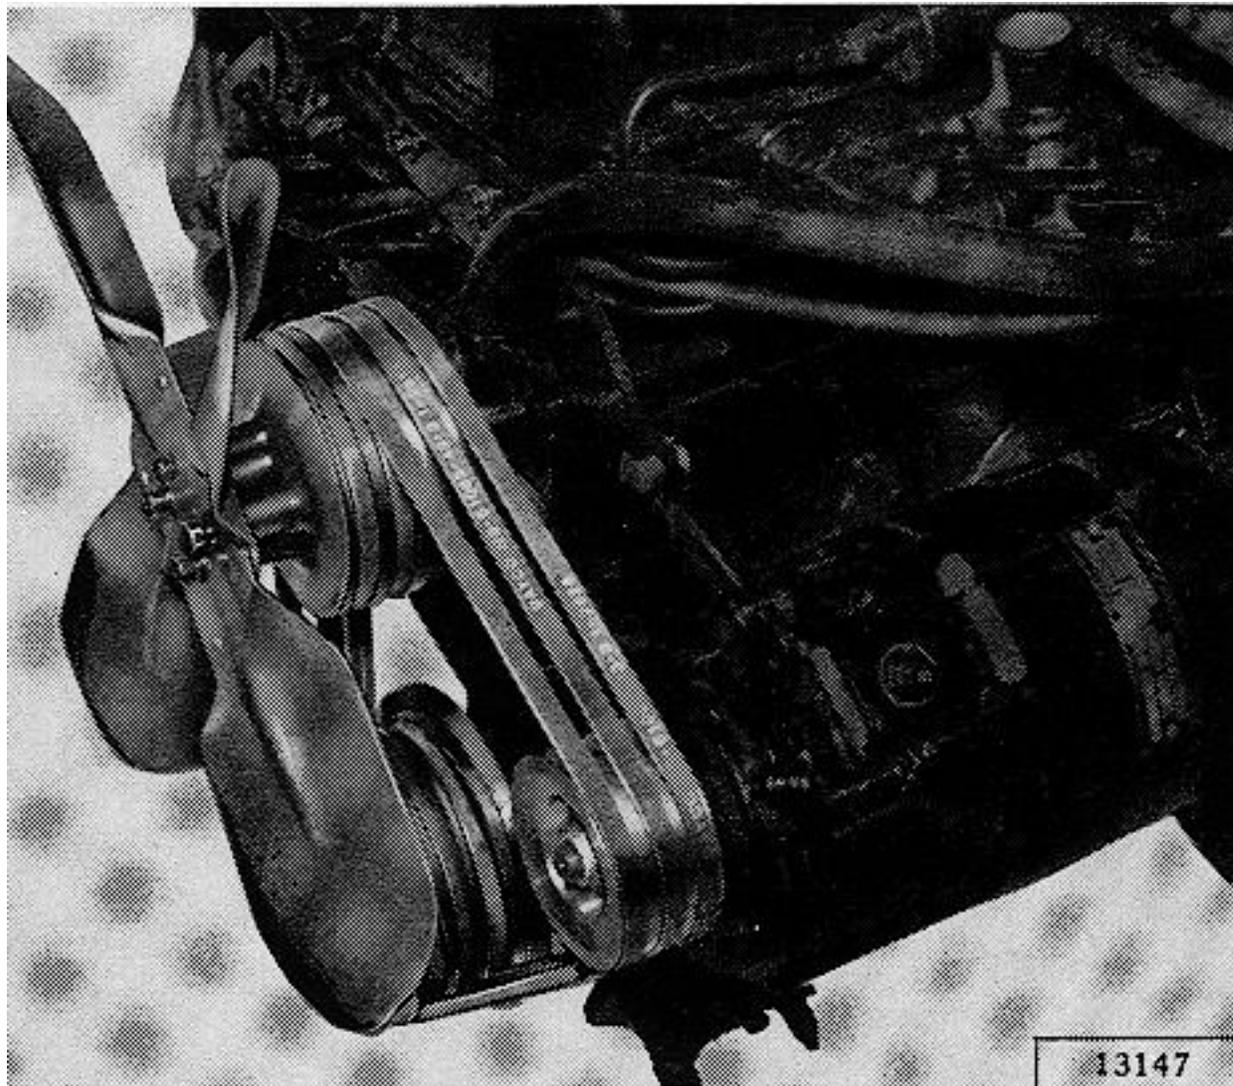

FIG. C-13—FAN BELTS INSTALLED
The three (3) fan belts drive the fan, alternator and water pump. See Fig. C-13. Inspect the fan belts for serviceability and proper tension. The tension should be checked with the belt tension gauge. The correct tension on a used belt is 50 to 60 lbs. and on new belts 60-70 lb. On a new vehicle the belts strand tension should be 50 to 60 lbs. When installing new belts, adjust the strand tension from 60 to 70 lbs. Adjust the fan belt tension by loosening the clamp bolt on the alternator brace and swinging the alternator away from the engine until proper belt tension is obtained. Then secure the clamp bolt.